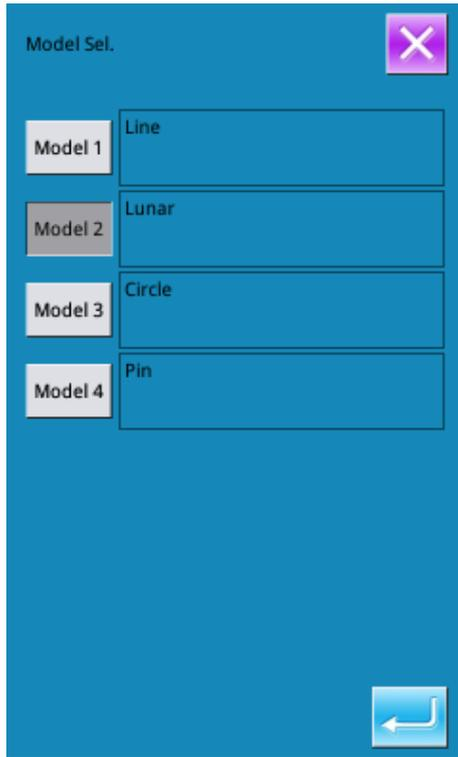

Figure 1
- Press the “Knotting Shape” and then select “Model 2 (Semi-lunar Knotting)” in the Model Selection interface, where user can edit the semi-lunar knotting, as shown in figure 1.